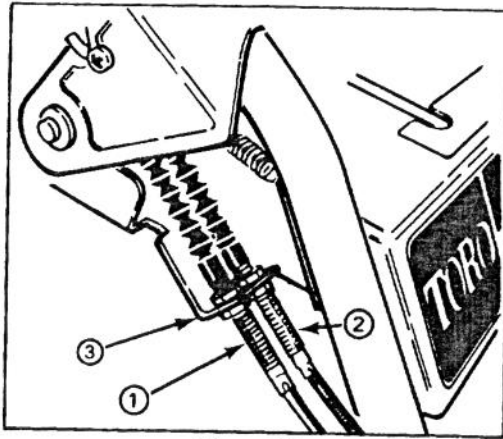

Figure 21
3. Loosen upper jam nut securing auger/impeller cable to mounting bracket (Fig. 21).
ADJUSTING TRACTION DRIVE BELT (Fig. 21)
8. On control cable which corresponds to belt being replaced, loosen jam nuts securing cable to bracket (Fig. 21). Cable must be free to slide in bracket when changing belt(s).